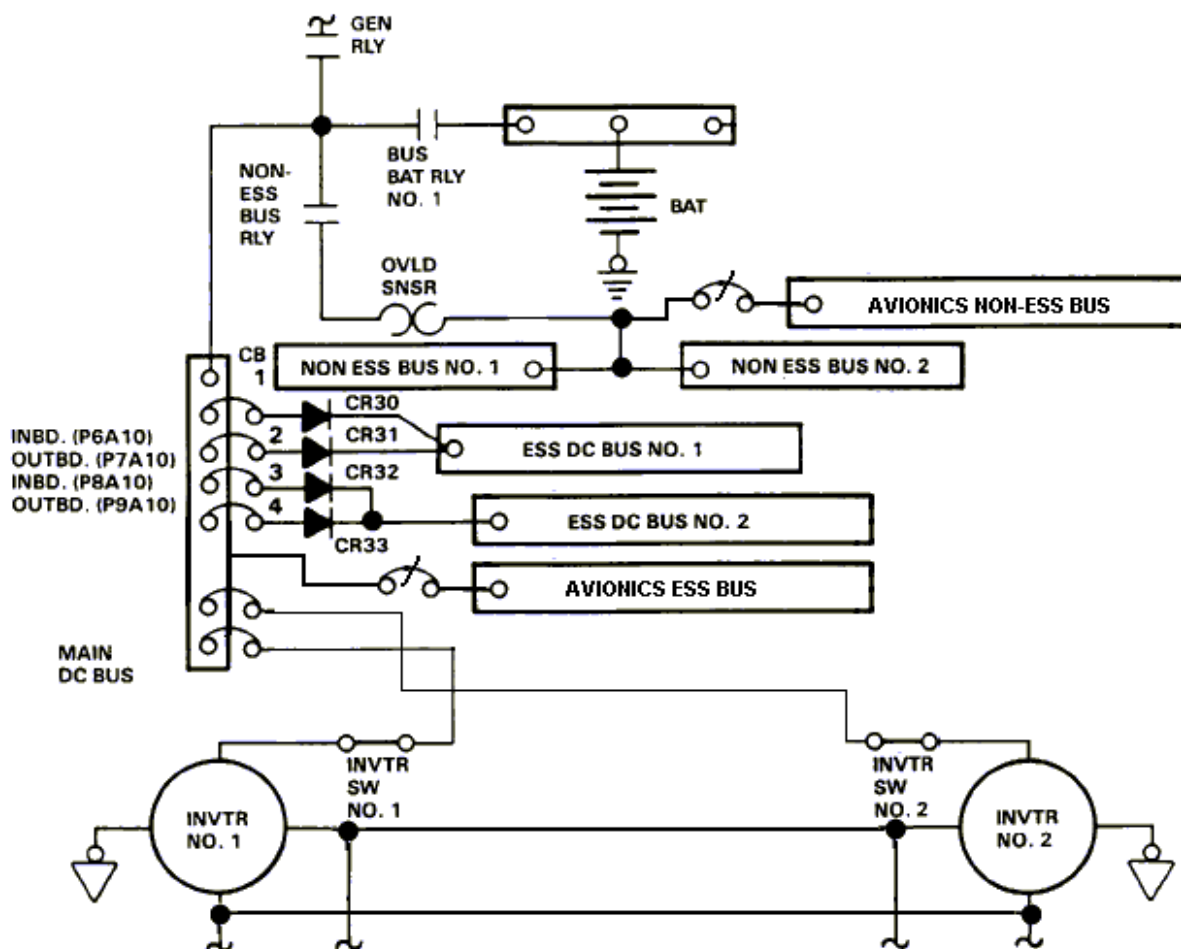

Figure 96-4. Power Diode Electrical Bus Wiring Schematic
96.3.19.1 Refer to Table 96-6 and Figure 96-4 and perform diode functional checkout procedures.
Note: Instructions (Refer to Figure 96-4)